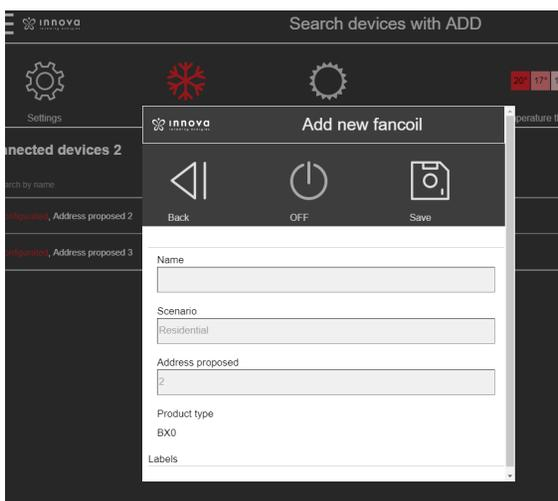

Figure 8.4
4. Selecting an unconfigured fancoil will display the “Add new fancoil” screen. (Figure 8.4)